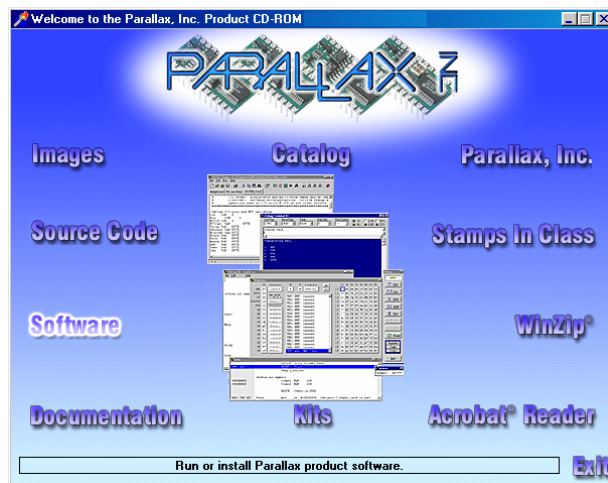

Figure 1-14
- ✓ Place the Parallax CD into your computer's CD drive. The Parallax CD browser is called the Welcome application. It's shown in Figure 1-14 and it should run as soon as you load the CD into your computer's CD drive.
- ✓ Click the *Software* link shown in Figure 1-14.